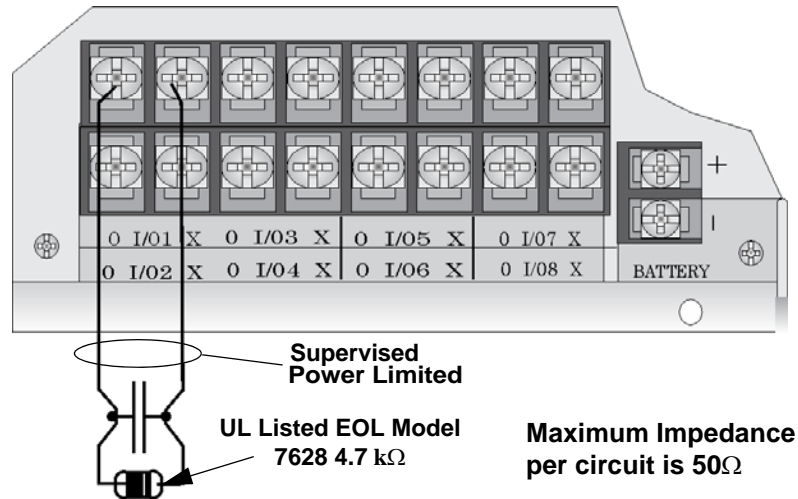

Figure 4-33 Class B Input Switches
- Wire the Class B switch as shown in Figure 4-33.